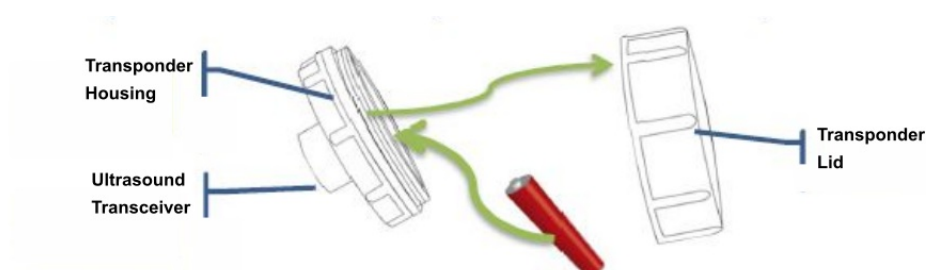

Figure 10. Schematic of how to change transponder batteries (modified from the Postax version 2.2 User Manual, Haglöf Sweden AB).
- Each transponder uses one alkaline AA (1.5V) battery placed under the lid -twist off lid to replace (Fig 10).